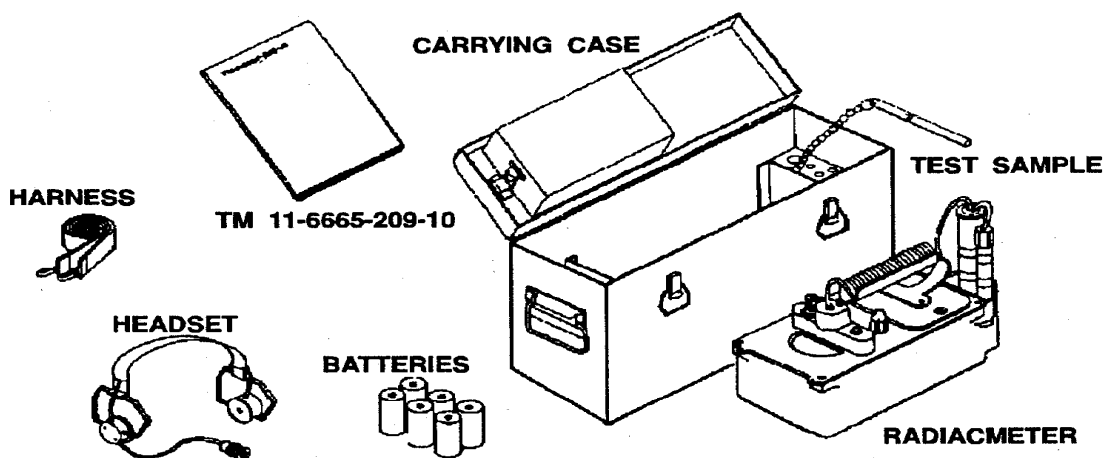

Figure 5-15. AN/PDR27 Radiac Set
g. The AN/PDR27 (Figure 5-15) is designed to detect beta radiation and measure and detect gamma radiation. The AN/PDR27 is used as a point source instrument to monitor low levels of radiation contamination on personnel, supplies, and equipment. It is portable, watertight, lightweight, and rugged. It is issued on a one per divisional company-size combat and combat support unit and as required for medical, maintenance, and bath units and water supply points. See TM 11-6665-209-15 and TM 11-6665-230-15 for further information.